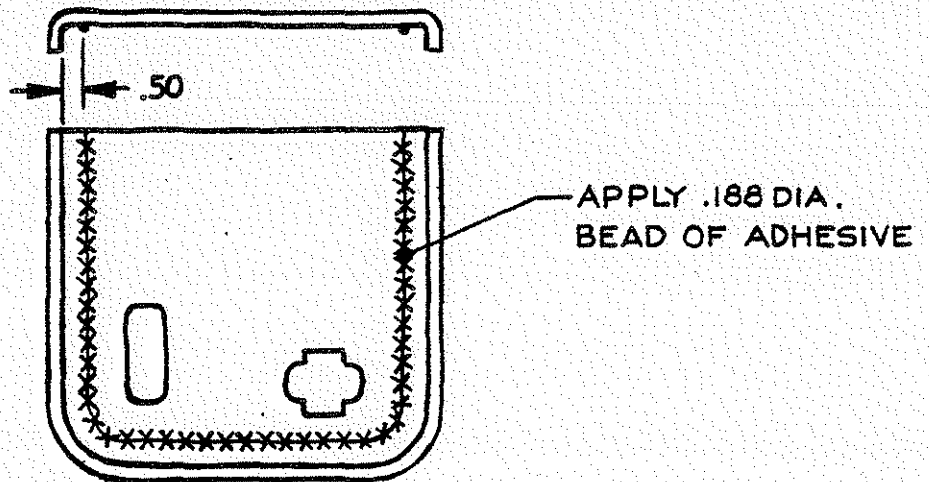

FIGURE 3
3. @ B.L. 34.700, mask is @ Sta. 11.899 & El. 53.250 (Fig. 3)
3.) With the applicator, apply a 3/16 diameter bead of structural adhesive about .50 away from the flange on the outer panel (see Figure 3).